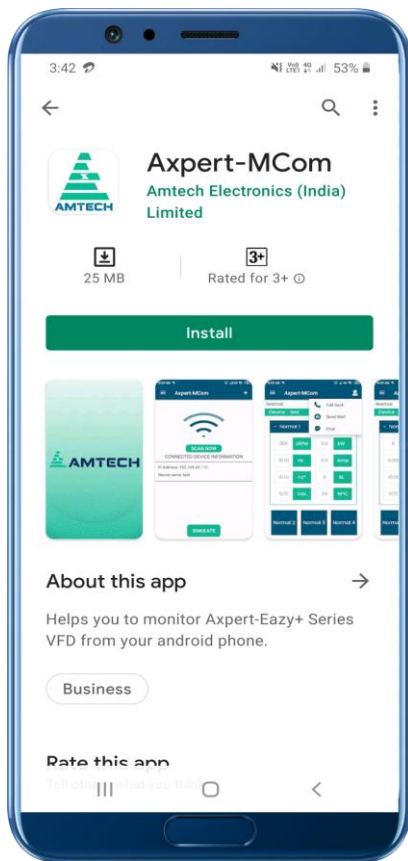

Figure 1: **Axpert-MCom** in Google Play Store
- Install the latest version of “**Amtech-MCom**” application from Google Play Store (as shown in Figure 1).